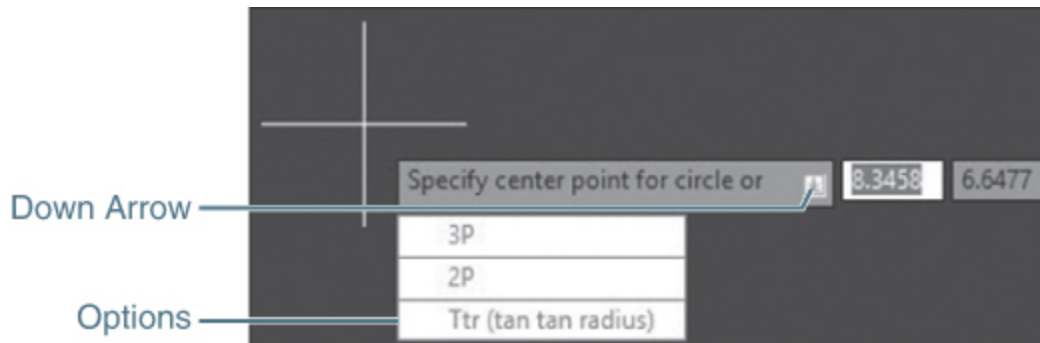

Figure 2-8
Dynamic input (see Figure 2-8) uses a command prompt that moves with your cursor and provides instant, dynamic feedback as you move around the drawing. Dynamic input provides you with active, heads-up feedback that allows you to read and respond to AutoCAD's prompts without changing focus away from your drawing. Dynamic input can be turned on and off by toggling the **Dynamic Input** button on the status bar.
- When there are multiple ways to create an object, AutoCAD will display a down arrow next to the dynamic input prompt (see Figure 2-8). Press the down arrow key to see the list of command options.